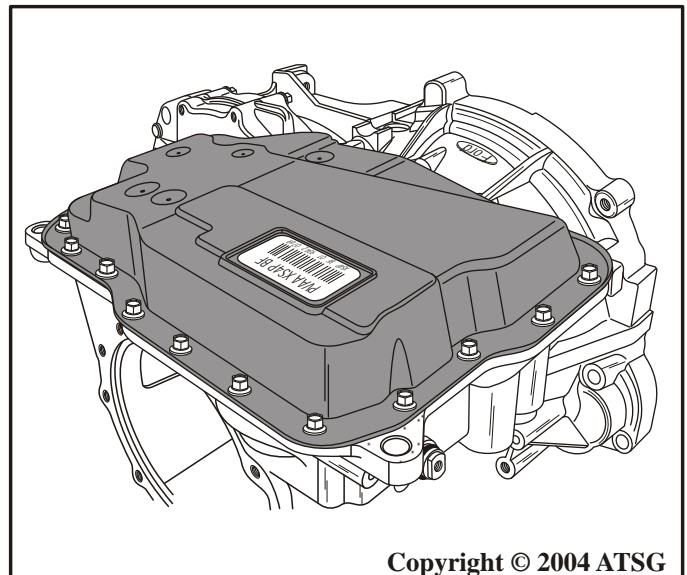

Figure 33
28. Rotate the transaxle so that the bottom pan is facing up, as shown in Figure 33.